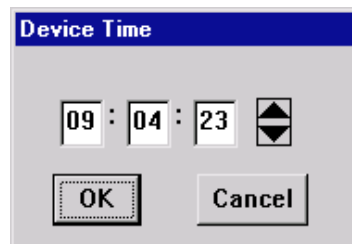

Figure 2-28. The Edit Time Window
2. The following change window, Figure 2-28, will appear.